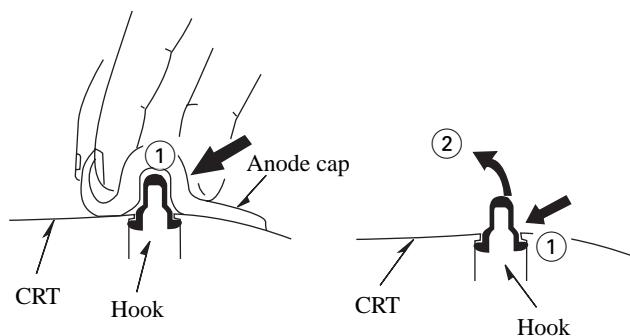

Fig. 3
- (1) Connect a flat-bladed screwdriver to the CRT GND via an alligator clip.
- (2) Use a tester to check the end of the screwdriver and ground of the TV for continuity.
- (3) Touch the hook with the end of the screwdriver.
- (4) Turn over the anode cap.
- (5) Push the anode cap with your thumb in the direction of arrow ① as shown in the figure, then lift the cap in the direction of arrow ② to release the hook on one side. (See Figure 3)